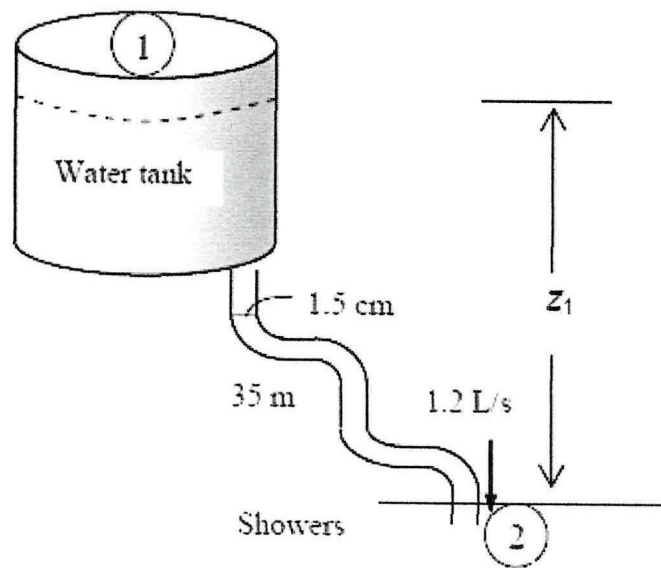

Figure Q6 (b)
- Q5** (a) With the aid of sketches, state four (4) conditions which contributed to the minor losses (4 marks)
- (b) A water tank filled with solar-heated water at 40°C is to be used for showers in a field using gravity driven flow. The system includes 35 m of 1.3-cm-diameter galvanized iron piping with four miter bends (90°) without vanes and wide-open globe valve as shown in **Figure Q6 (b)**. If water is to flow at a rate of 1.2 L/s through the water head, determine how high the water level in the tank must be from the exit level of the shower. The density and dynamic viscosity of water at 40°C are $\rho = 992.1 \text{ kg/m}^3$ and $\mu = 0.653 \times 10^{-3} \text{ kg/m}\cdot\text{s}$, respectively. The loss coefficient for 4 miter bends (90°) without vanes ($K_L = 1.1$ each), and a wide open globe valve ($K_L = 10$). The losses at the entrance and at the showerhead are said to be negligible. The roughness of galvanized iron pipe is $\varepsilon = 0.00015 \text{ m}$. (16 marks)
- Q6** (a) The flow rate (Q) through an orifice plate is a function of pipe diameter (D), pressure drop (Δp) across the orifice, fluid density (ρ), viscosity (μ), and orifice diameter (d). Using D , ρ and Δp as repeating variables, express this relationship in dimensionless form? (15 marks)